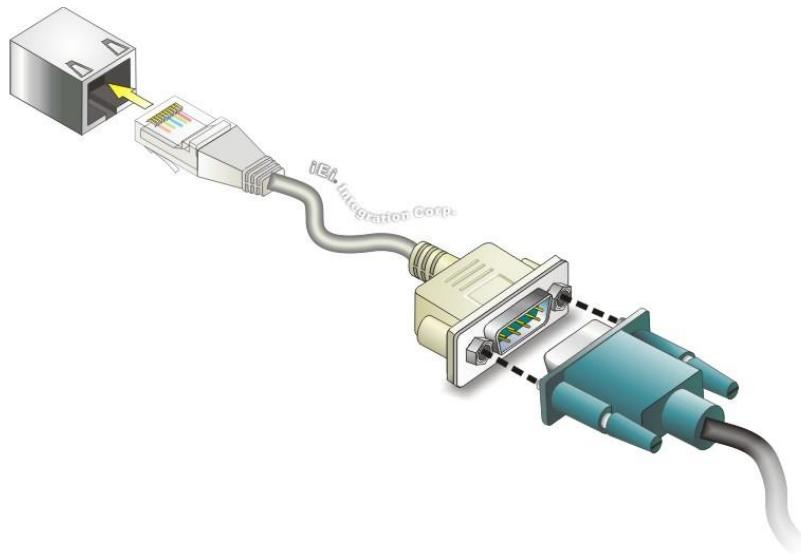

Figure 3-16: RJ-45 RS-232 Serial Device Connection
Step 2: Insert the RJ-45 connector. Insert the RJ-45 connector on the RJ-45 to DB-9 COM port cable to one of the RJ-45 RS-232 connectors on the TANK-870-Q170 Series. See **Figure 3-16**.